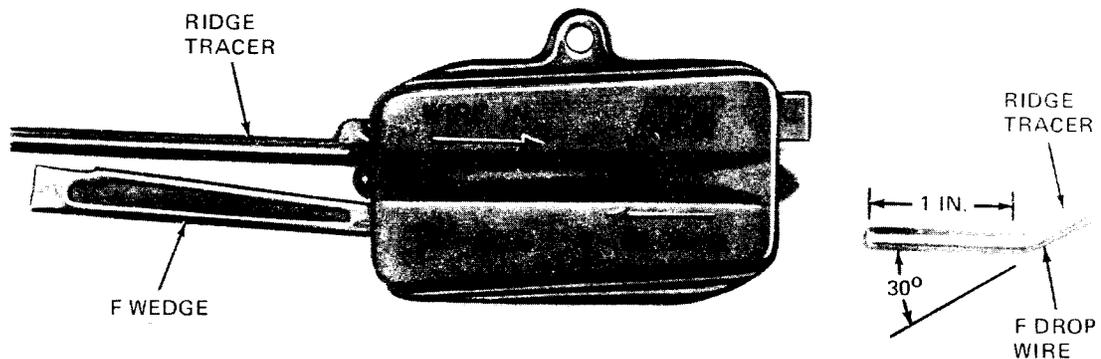

Fig. 5—Aligning Ridge Tracers
4.04 Locate the ridge tracer on the second drop wire (pair two) and align on the same side of the splicing shell as the ridge tracer on pair one (Fig. 5).